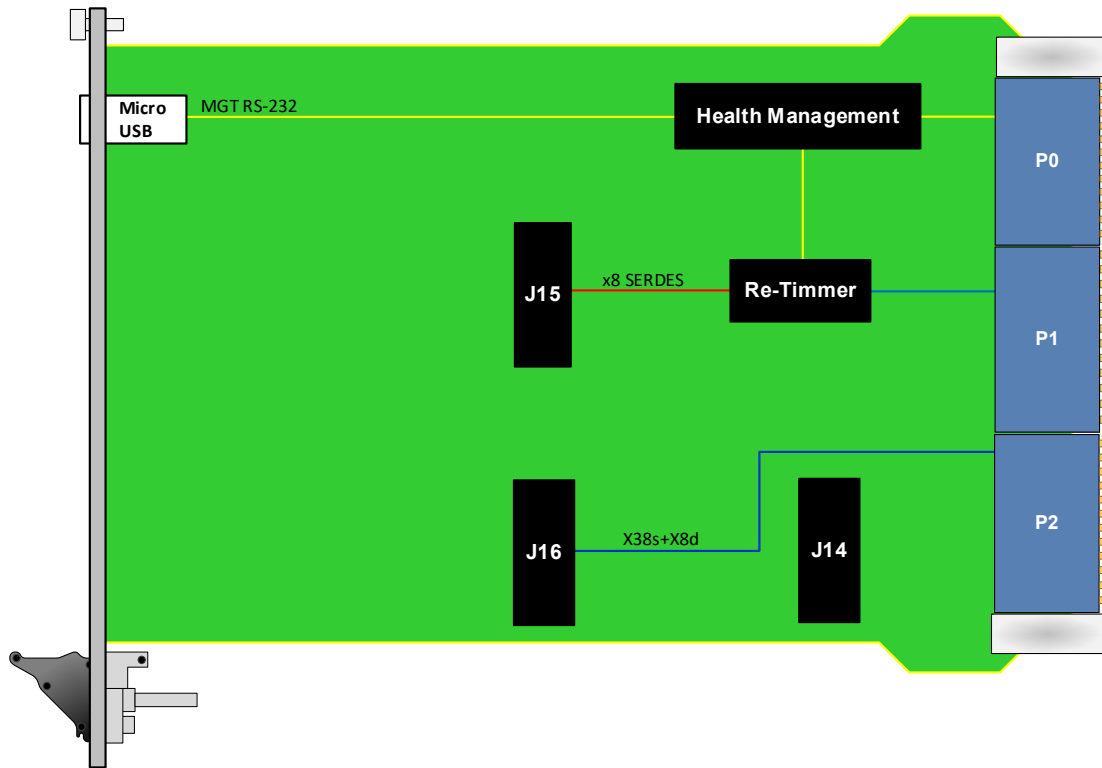

Figure 6: VPX102 Functional Block Diagram, Option C=4
- P1w9-X12d+P2w3-X38s+X8d (Figure 6)